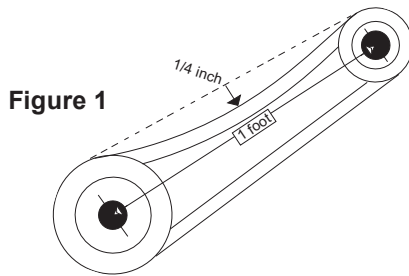

Figure 1
2. Adjust the motor plate until proper tension is reached. For proper tension, a deflection of approximately 1/4" per foot of center distance should be obtained by firmly pressing the belt. Refer to *Figure 1*.